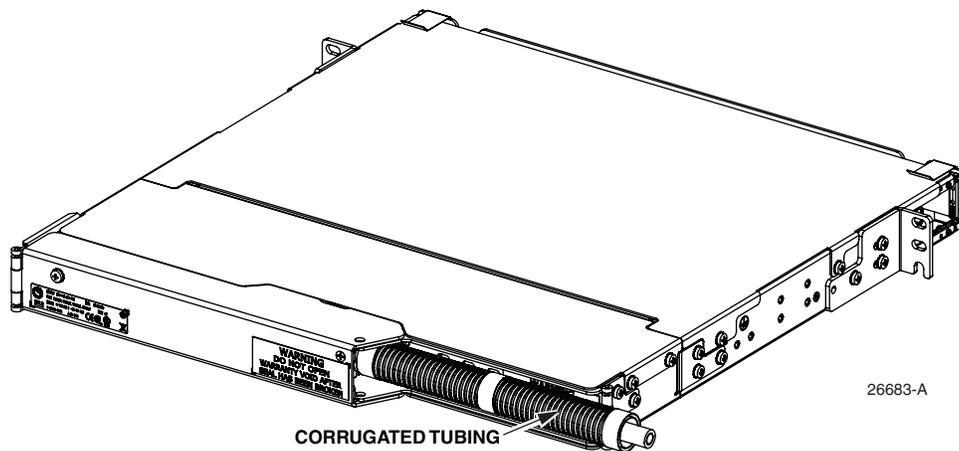

Figure 16. Corrugated Tubing on Cable
3. After securing the panel and cable, remove the protective corrugated tubing shown in Figure 16.